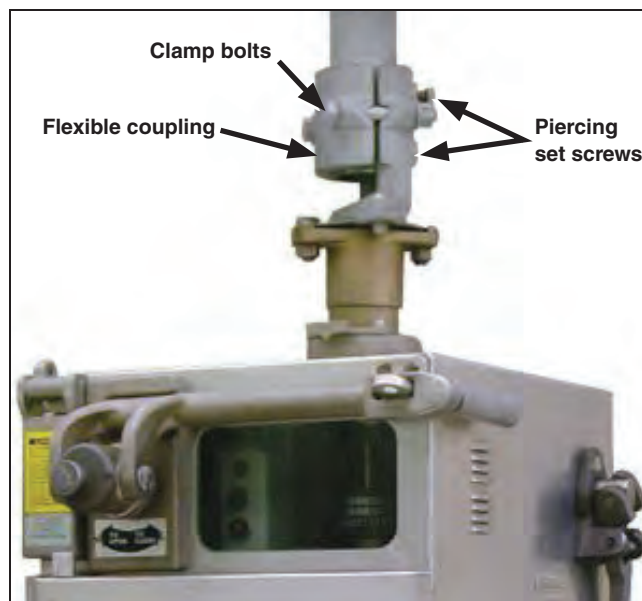

Figure 50. Tighten the flexible coupling on the operator output shaft. Tighten the piercing set screws.
- STEP 2.** Tighten the flexible coupling clamp bolts on the output shaft of the operator equally so the clamp pulls down evenly. Then, tighten the associated piercing set screws, piercing the shaft, and continue turning until a firm resistance is felt. See Figure 50.